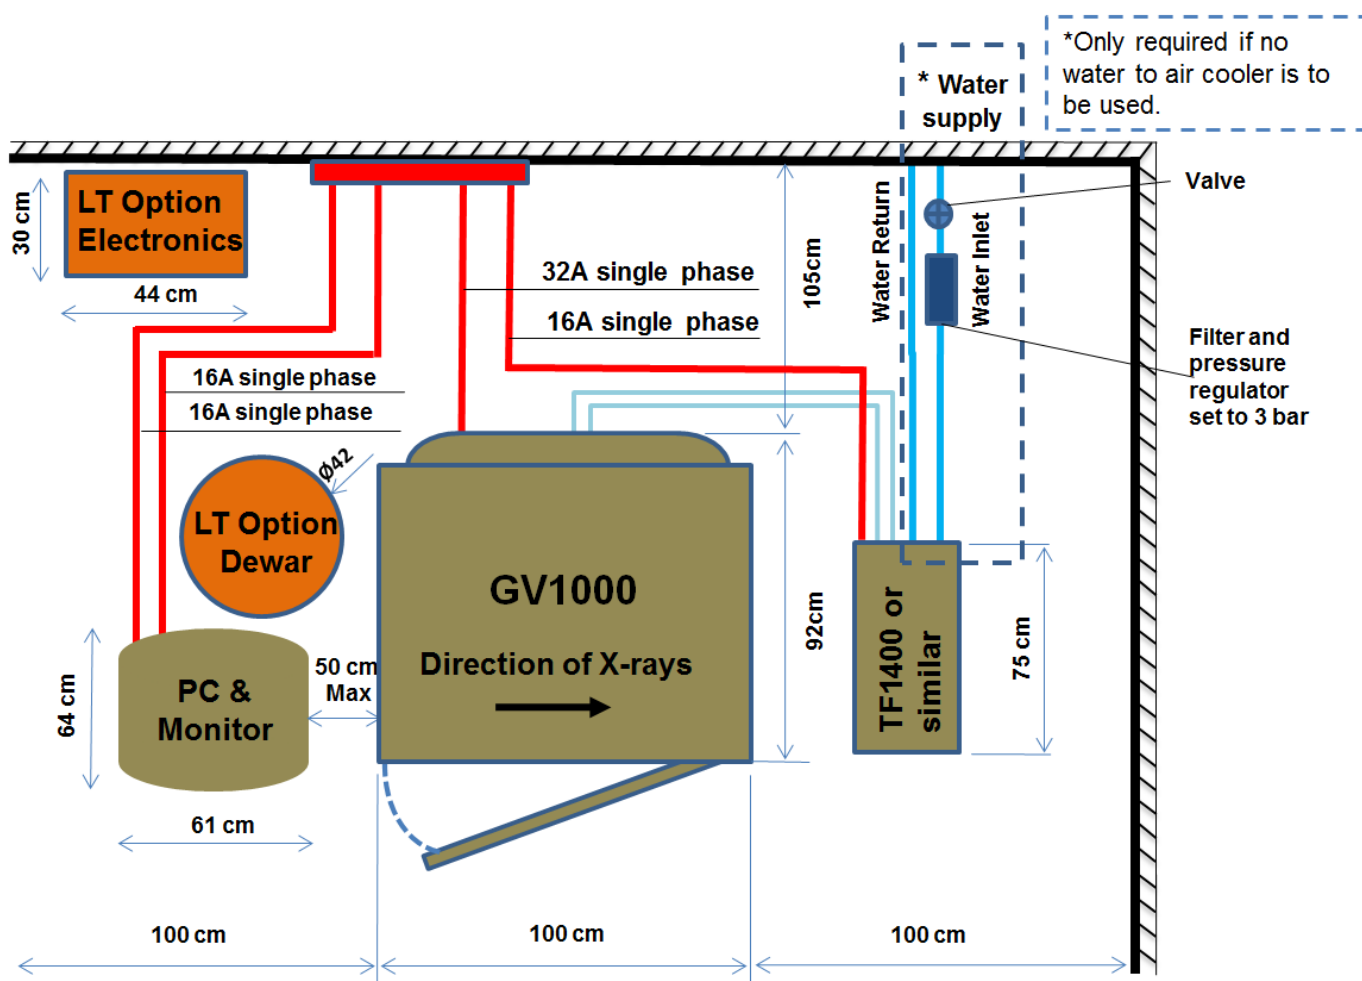

Fig1. GV1000 suggested layout.
7. Adequate space is required around the system for servicing. The minimum clearance from the walls and a suggested system layout are shown in Fig.1 drawing.